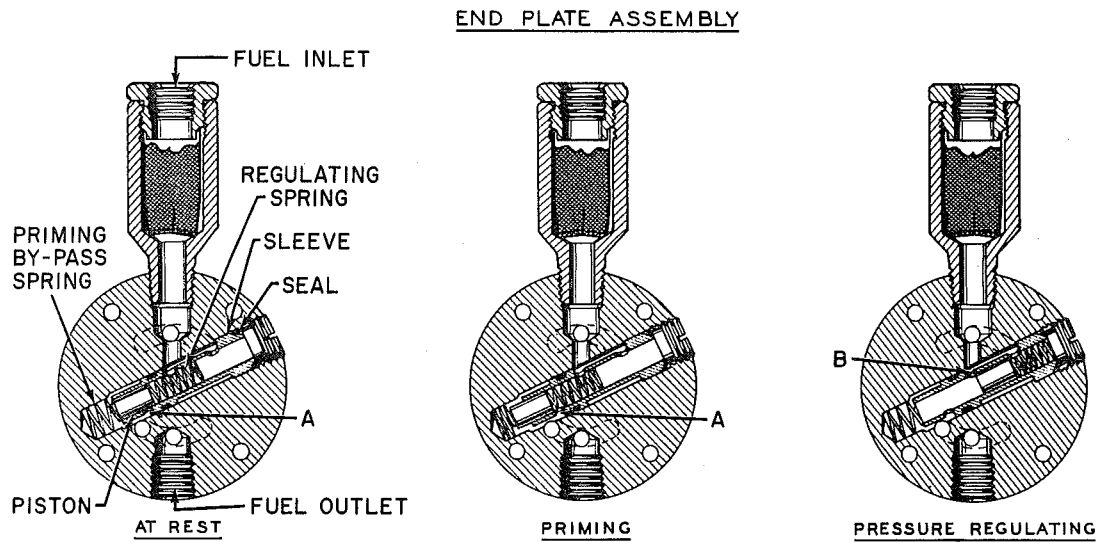

FIG. 48—END PLATE OPERATION DIAGRAM
The end plate, pressure regulating valve, priming by-pass spring, and strainer are shown in Fig. 48. In the "at rest" position, the piston covers the hand priming port (A) and rests against the priming by-pass spring.